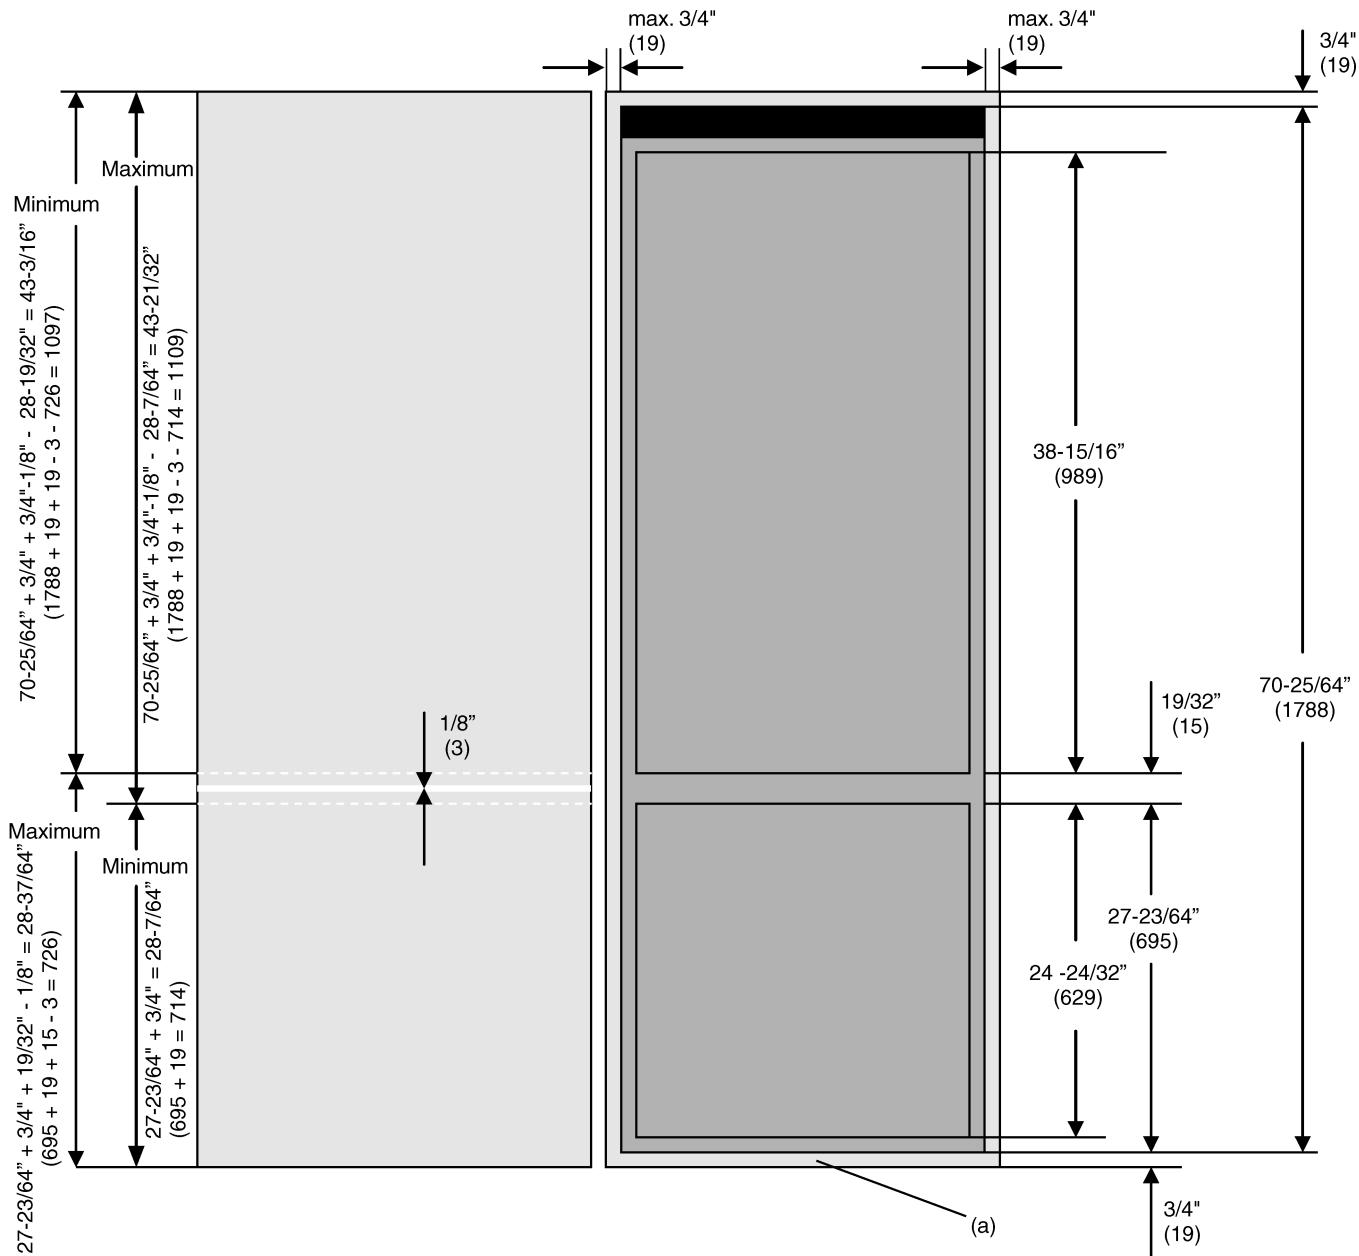

Fig. 7
► To cover the face side of the floor board Fig. 7(a): increase the height of the panel to 27-23/64 in. + 3/4 in. = 28-7/64 in. (695 mm + 19 mm = 714 mm).